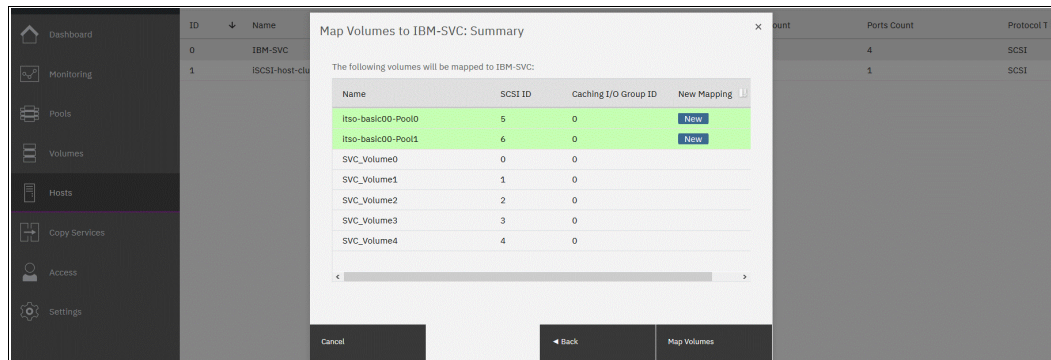

Figure 7-60 Summary of added shared mappings
- After clicking **Next**, the next window prompts you to verify that the changes are correct, as shown in Figure 7-60. Click **Map Volumes** to complete the operation, click **Back** to return and change the SCSI IDs or IBM-SVC that are being mapped, or click **Cancel** to stop the task.